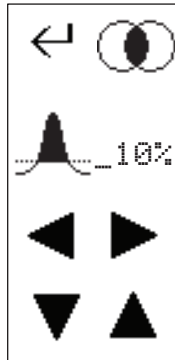

Figure 3-14 Threshold Settings menu
1. Touch the Threshold Detection icon from the Method Settings menu to open the threshold menu (Figure 3-14).